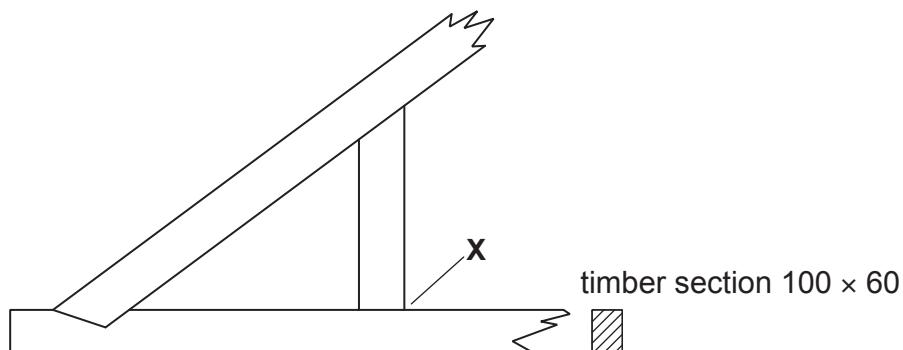

Fig. 10.3
- (iv) Fig. 10.3 shows part of a roof truss.